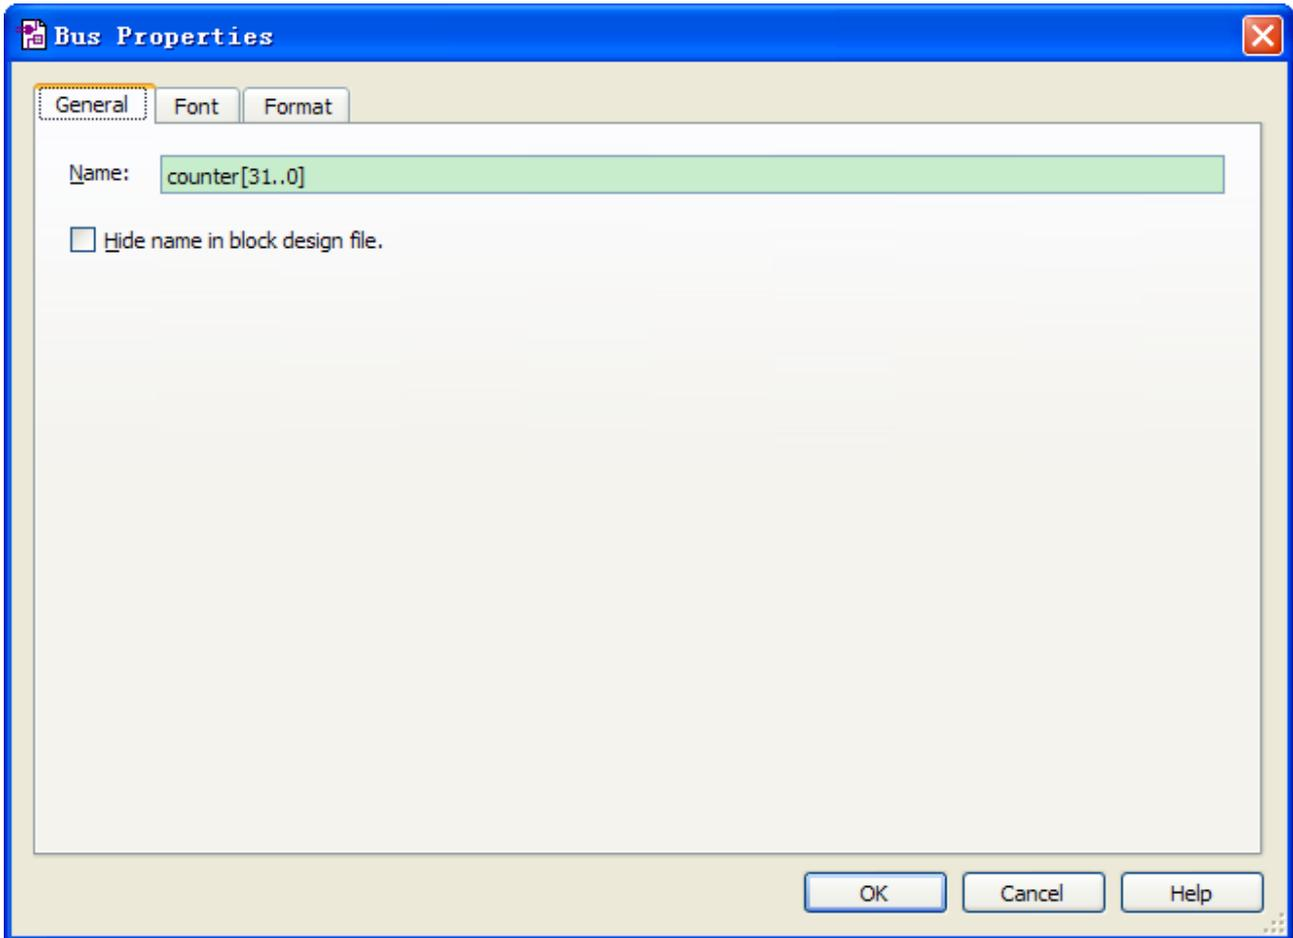

Figure 6-31 Change the output BUS name
3. Type counter [31..0] as the bus name (see **Figure 6-31**). The notation [X ..Y] is the Quartus II method for specifying the bus width in BDF schematics, where X is the most significant bit (MSB) and Y is the least significant bit (LSB).